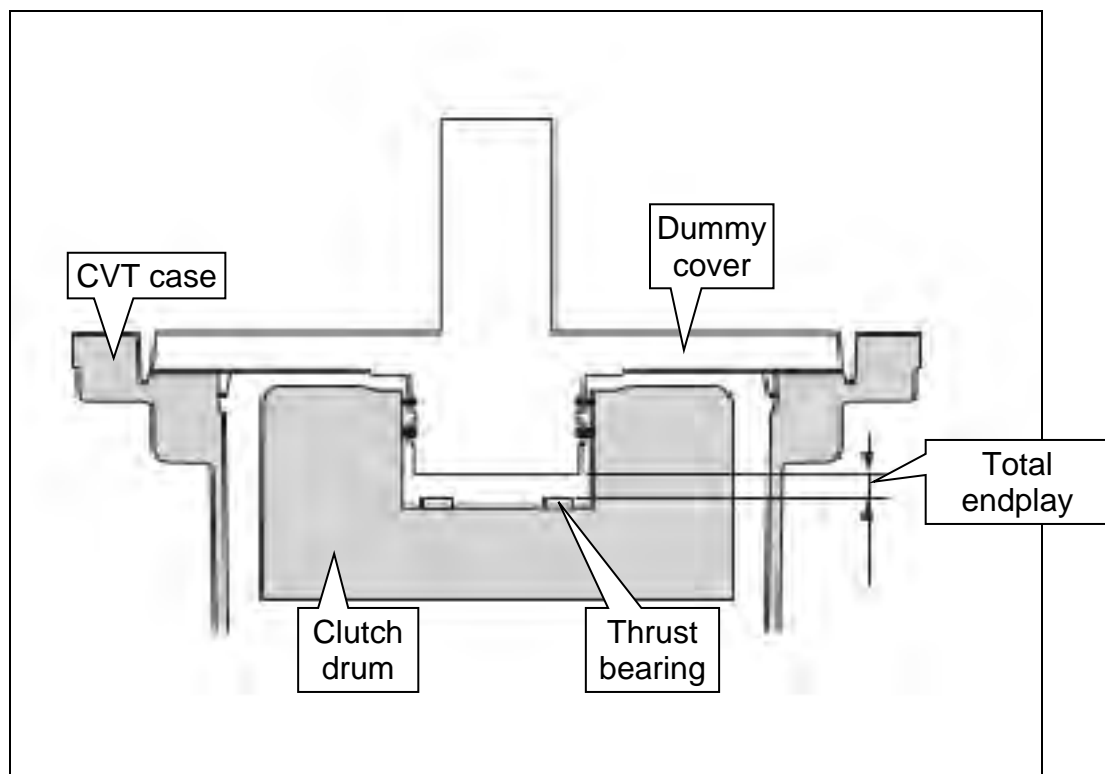

Figure 1G
**IMPORTANT:** The clutch total endplay (Figure 1G) must always be adjusted between the clutch drum and the dummy cover when a new sub-assembly is installed and is adjusted with thrust bearing thickness.